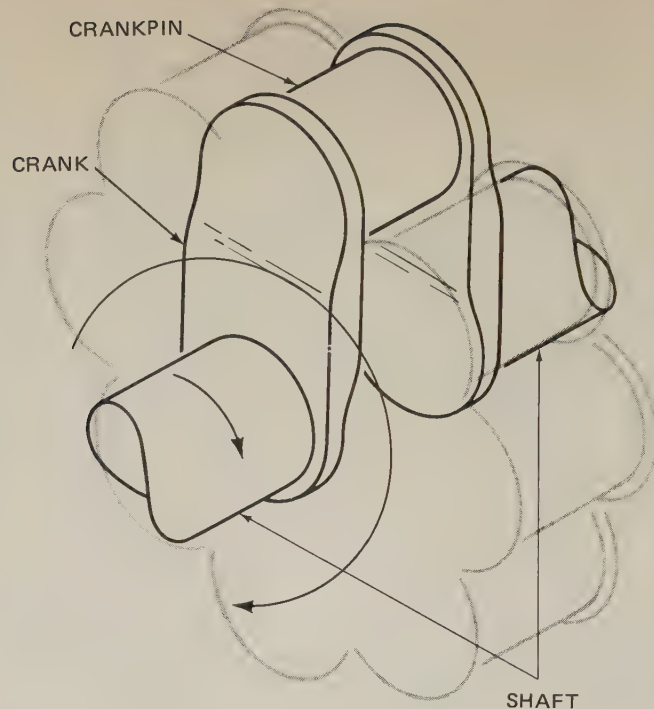
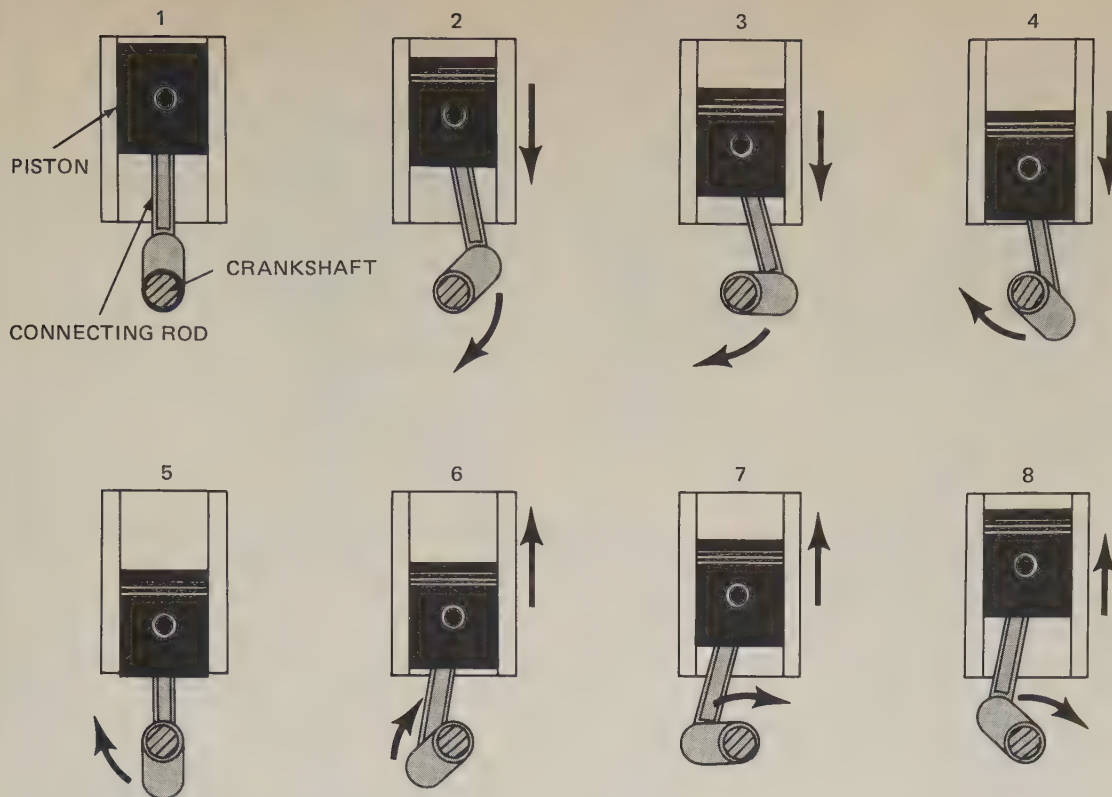

FIG. 9-7 As the crankshaft rotates, the crank and crankpin swing in a circle around the shaft.
FIG. 9-8 Sequence of actions as the crankshaft completes one revolution and the piston moves from top to bottom to top again.
The crank is a very common device which is used in many machines and in almost all engines. The crank is an offset part of a shaft. When the shaft rotates, the crank and crankpin swing in a circle as shown in Fig. 9-7. When the piston is pushed down in the cylinder by the combustion pressures, the push on the piston, carried through the connecting rod to the crank, causes the shaft to turn. Figure 9-8 shows the motions that the piston, connecting rod, and crank go through. As the piston moves up and down, the top end of the connecting rod moves up and down with it. The bottom end of the connecting rod swings in a circle along with the crank.
**○ 9-6 CRANKSHAFT** The crank is a part of the crankshaft. It is an offset section, as shown in Fig. 9-9, to which the connecting-rod big end is attached by a bearing. The crankshaft is mounted in the engine on bearings which allow the crankshaft to rotate. As the crank rotates, it swings in a circle, as shown in Fig. 9-8.